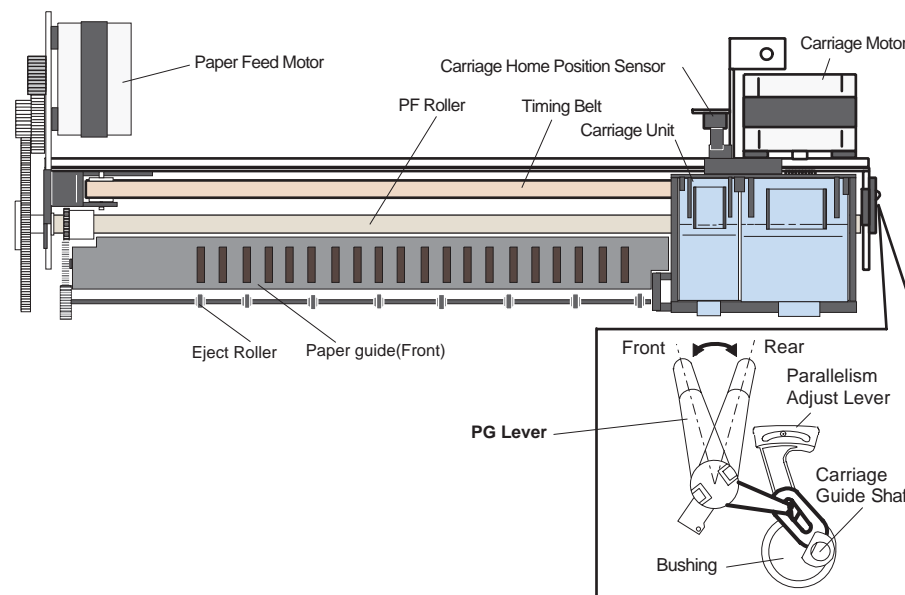

Figure 2-6. Carriage Mechanism (Top View)
The platen gap (PG) adjustment lever changes the distance between the printhead and the platen. (See Figure 2-6.) The distance can vary between 1.04 mm and 1.74 mm. Normally, the lever is kept in the forward position, or narrow gap setting. In case of problems during printing, such as paper curl, the user can move the lever toward the rear to increase the gap.